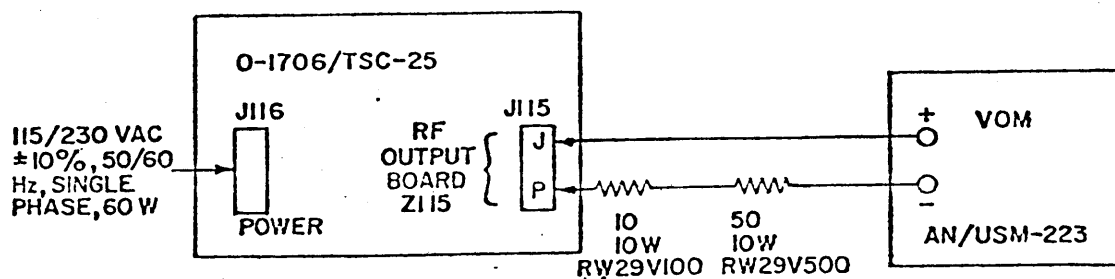

Figure 5-2. MONITOR meter, alignment setup.
- (1) Power Supply Boards Z303 and Z304. (See figs. 5-2, FO-18 and FO-17.) Align the power supply boards as follows:
(s) Connect VOM as indicated in figure 5-2.